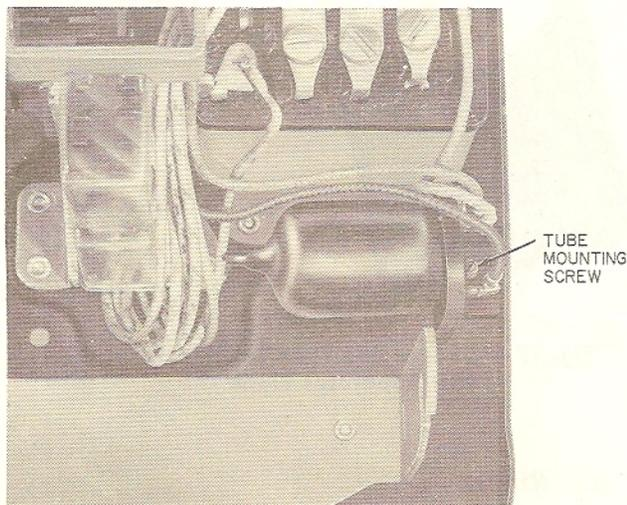

Fig. 21 — 501-Type Telephone Set, Tube Assembly
- Tube assembly is held to base of set with single screw (Fig. 21).